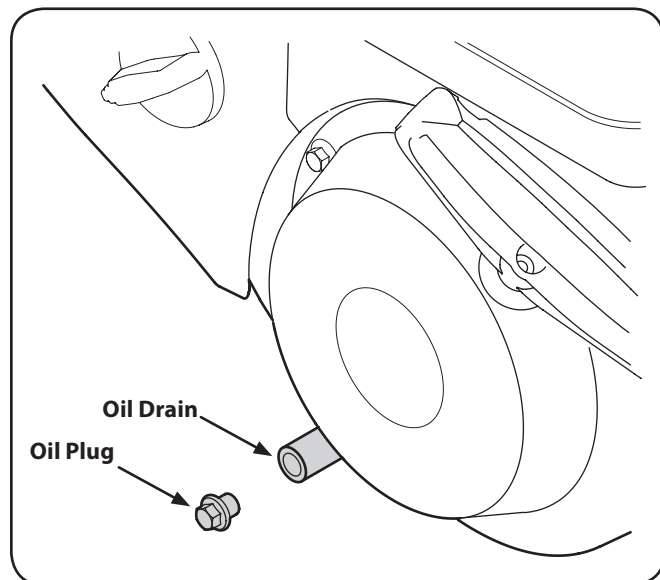

Figure 7-1
3. Remove oil drain plug. See Fig. 7-1.